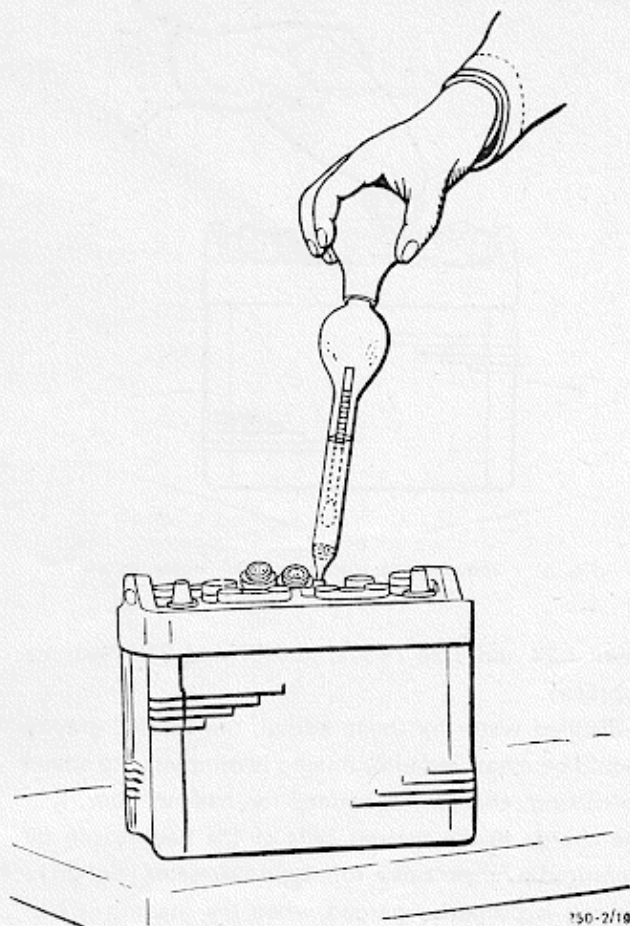

Fig. 19 - Checking the battery charge by means of a hydrometer
a) **Check the battery;** its state and charge can be checked by a densimeter after stopping the engine (fig. 19); the electrolyte reading should be bet-